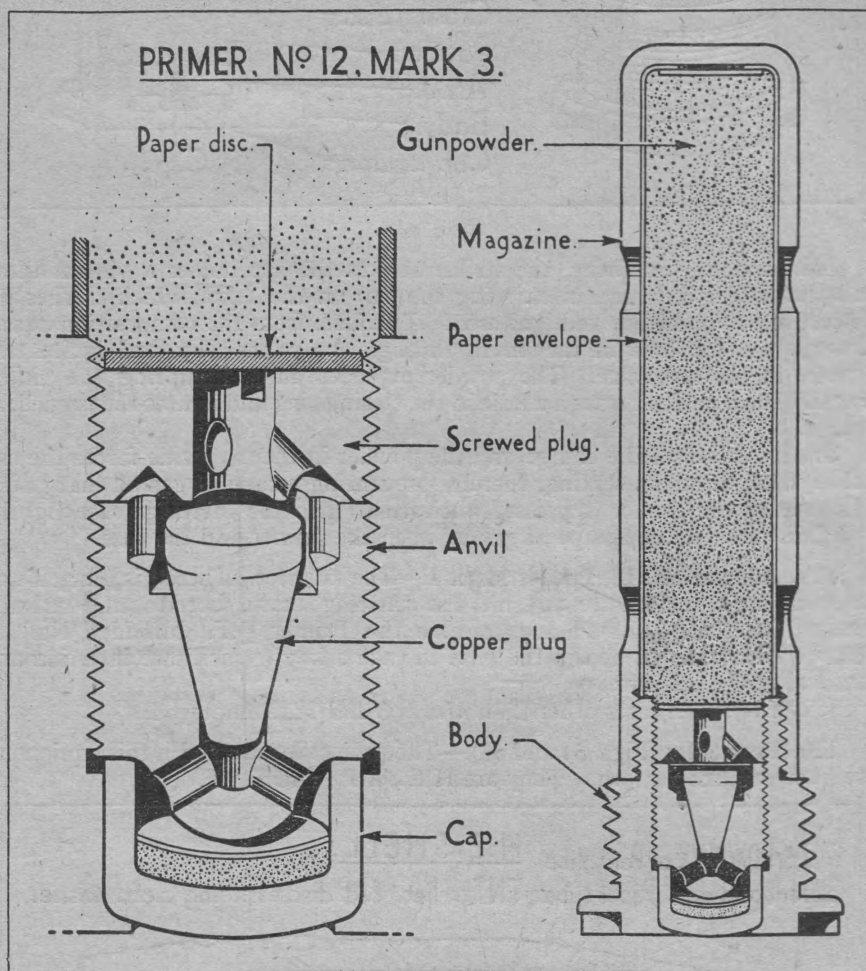

FIG. 52.
**105. Primer, Percussion, Q.F. Cartridge, No. 12, Mark 3** (Fig. 52).—The primer consists of a body, cap, anvil, plug, screwed plug and magazine, and is screwed into the base of the cartridge.